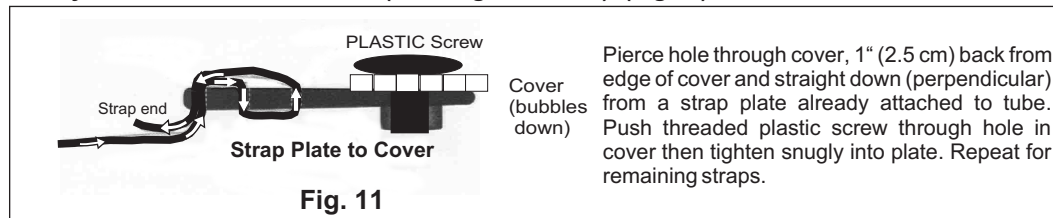
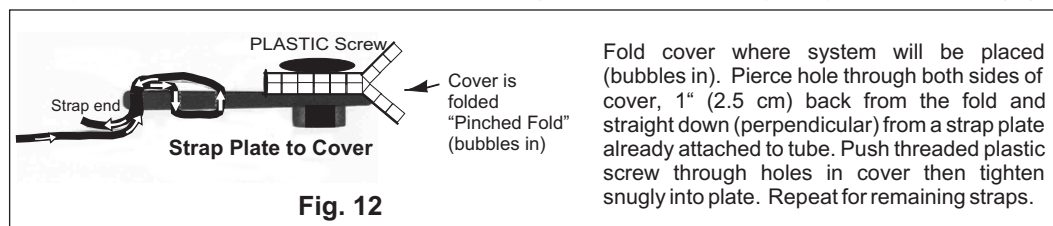

Fig. 11
Fig. 12
- C. Choose either Fig. 11 OR Fig. 12 - the appropriate instructions below for your pool shape. If you have determined a mid-pool or off-center placement, it will be easier if you move the cover away from the pool and fold it (bubbles in) on a flat surface.
For Systems Placed at Pool End (Rectangular Pools) (Fig.11)
For Systems placed at Mid-Pool or Off Center (Round, Oval or Irregularly Shaped Pools) (Fig. 12)